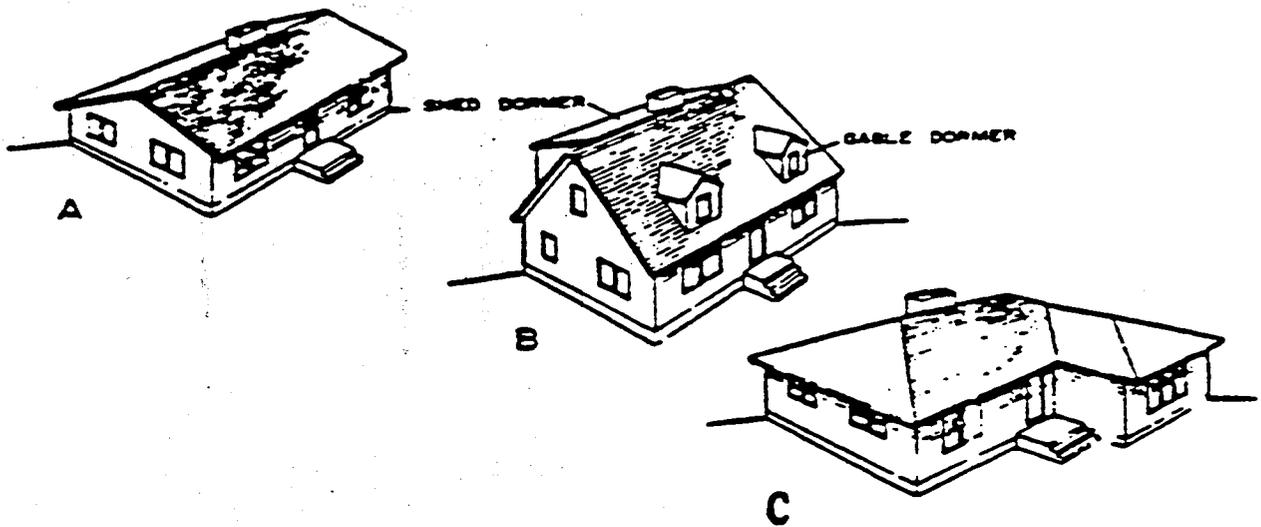

Fig 2-28. A, Gable roof; B, Gable with dormer; C, Hip roof.
b. There are several types of pitched roofs. Perhaps the simplest and most common of these is the gable roof (fig 2-28, A). A variation of the gable roof, used for Cape Cod or similar style houses, includes the use of shed and gable dormers (fig 2-28, B). A third style in roof design is the hip roof (fig 2-28, C).